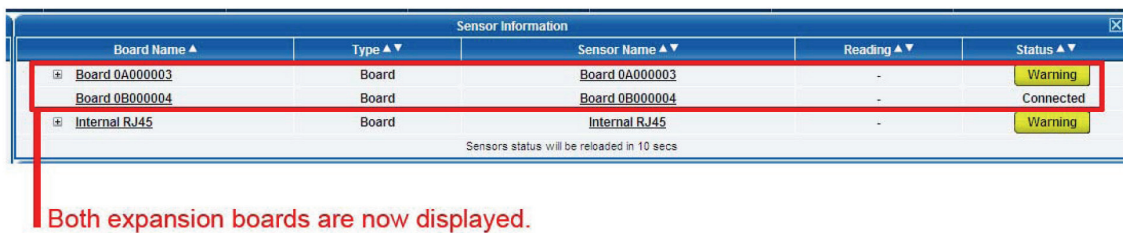

Figure 3-14. Sensor information window.
- After the unit is connected, access your Web interface, click on the desired IP address and log in, and navigate to the summary page. Two boards will be displayed within the sensor information window as shown in Figure 3-14.